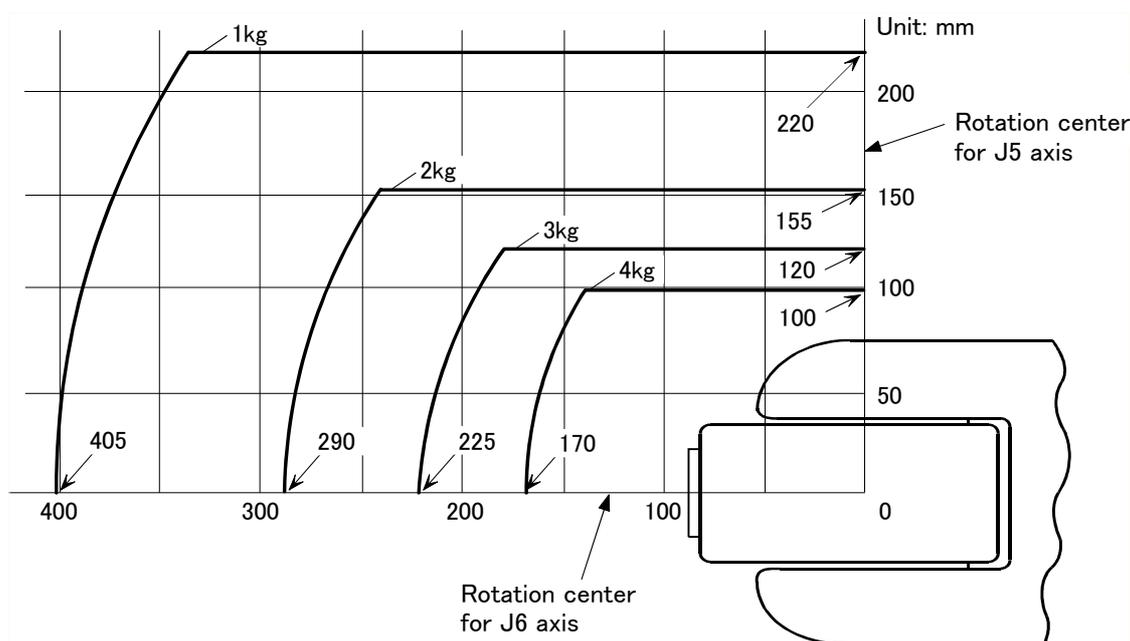
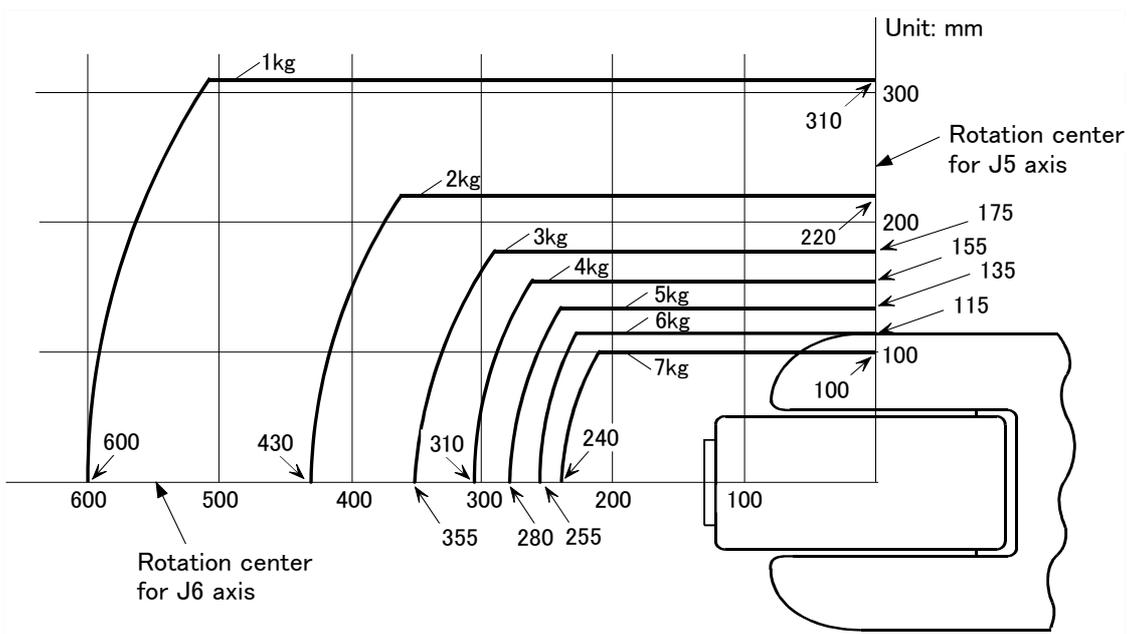
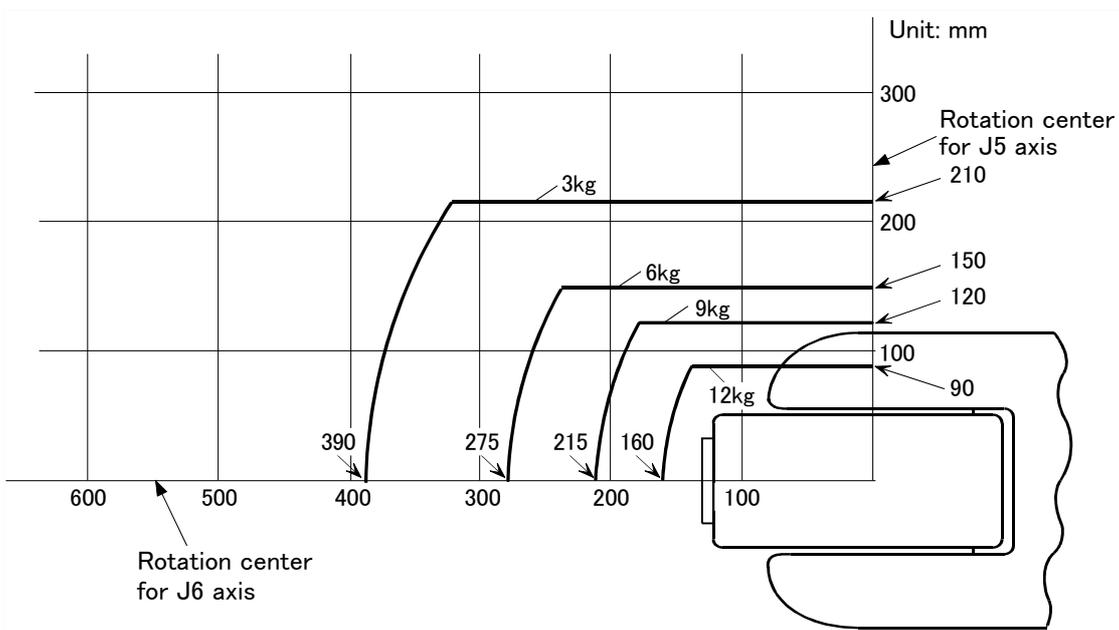
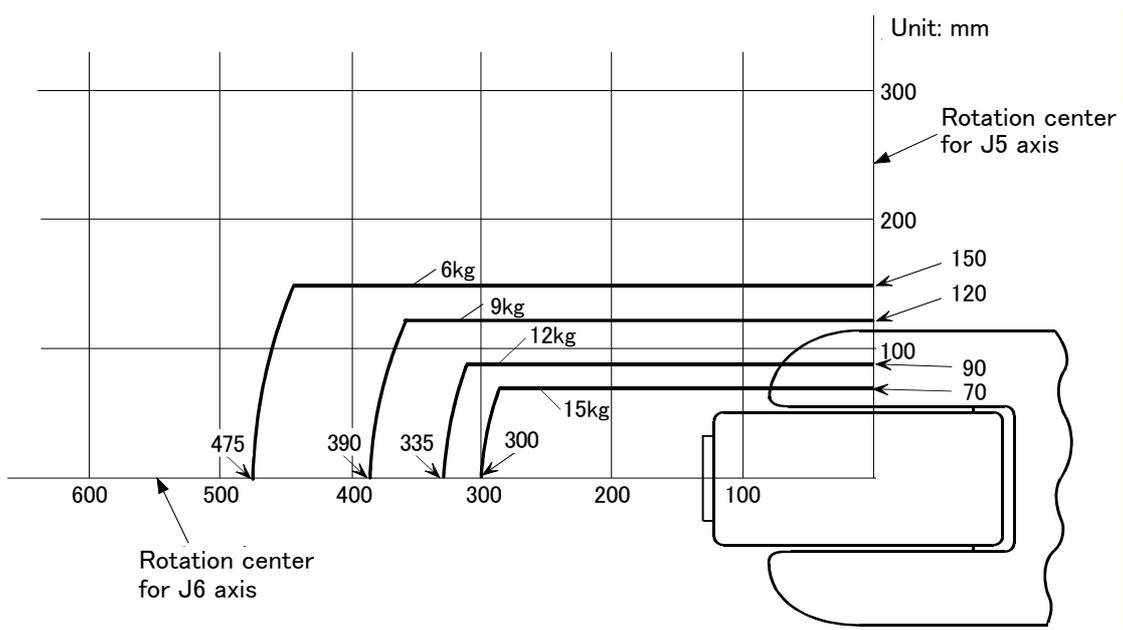

Fig.2-1 : Position of center of gravity for loads (for loads with comparatively small volume): RV-4F/4FL/4FJL
Fig.2-2 : Position of center of gravity for loads (for loads with comparatively small volume): RV-7F/7FL/7FLL
Fig.2-3 : Position of center of gravity for loads (for loads with comparatively small volume): RV-13F/13FL
Fig.2-4 : Position of center of gravity for loads (for loads with comparatively small volume): RV-20F
- (1) The tooling should have the value less or equal than the smaller of the tolerable inertia and the tolerable moment found in Page 10, "2.1.1 Basic specifications".
- (2) Fig. 2-1, Fig. 2-2, Fig. 2-3 and Fig. 2-4 shows the distribution dimensions for the center of gravity in the case where the volume of the load is relatively small. Use this figure as a reference when designing the tooling.
- (3) Even if the load is force, not the mass, design the tooling so that moment does not exceed the allowable moment. Refer to Page 10, "2.1 Standard specifications" for details of allowable moment value.